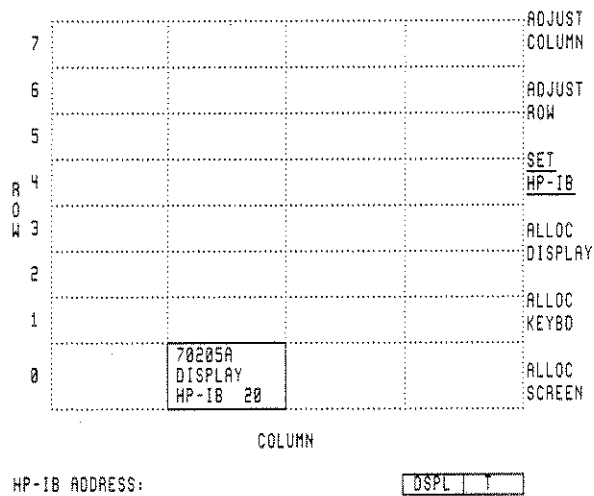

Fig. 11
8. Press **ENTER**. The HP-IB address of the display should immediately change to 20 as in Figure 11.